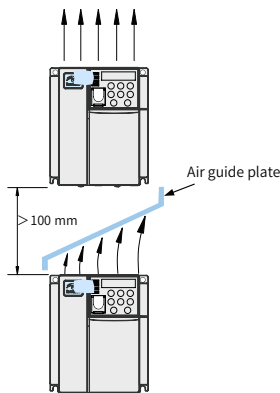

Figure 3-2 Dual-row installation
- 2) Install the drive vertically upward to facilitate heat dissipation. If multiple drives are installed in the cabinet, install them side by side. For dual-row installation, install an air guide plate as shown in Figure 3-2.